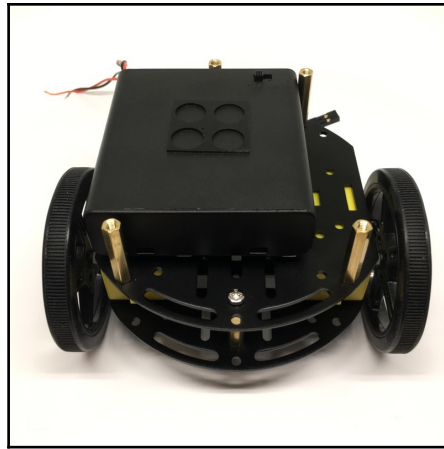

Figure 2.16: Placing the 4 x AA battery box. Image courtesy of Adafruit Industries (<https://www.adafruit.com>); Image credits—Tyler Cooper
3. Place the battery box (Figure 2.16):